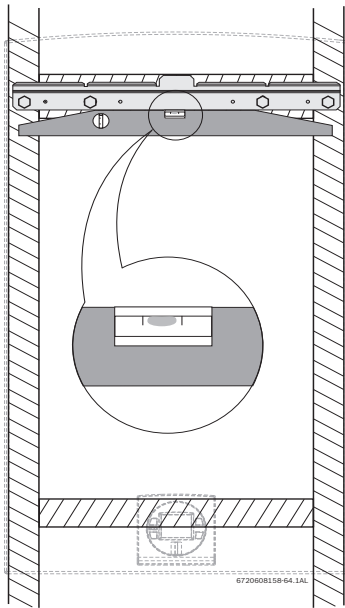

Fig. 25 Leveling the mounting bracket on the studs
- ▶ Secure the wall mounting bracket provided with the heater to the wall surface. The heater must be kept level on the wall surface, see Fig. 25, page 22.